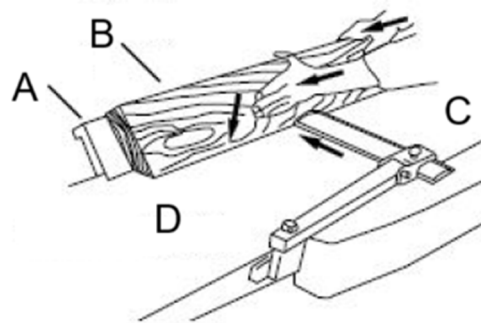

Figure 21
5. Feed the stock through the cutterhead, making sure the face of the stock is completely flat against the fence and the edge is making solid contact on the infeed and outfeed tables (Figure 21).